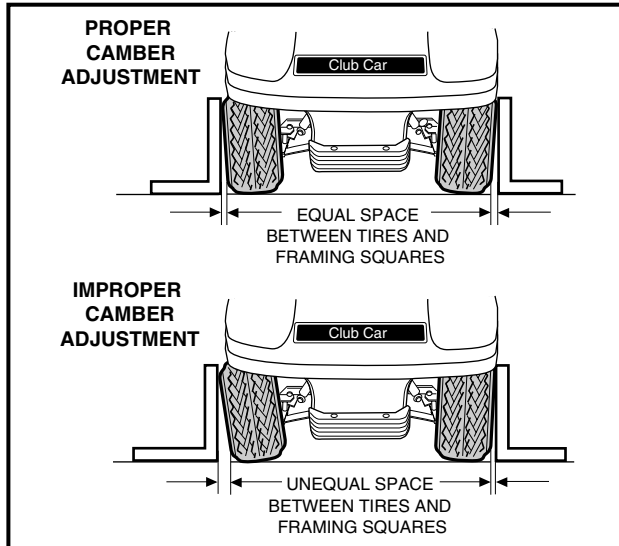
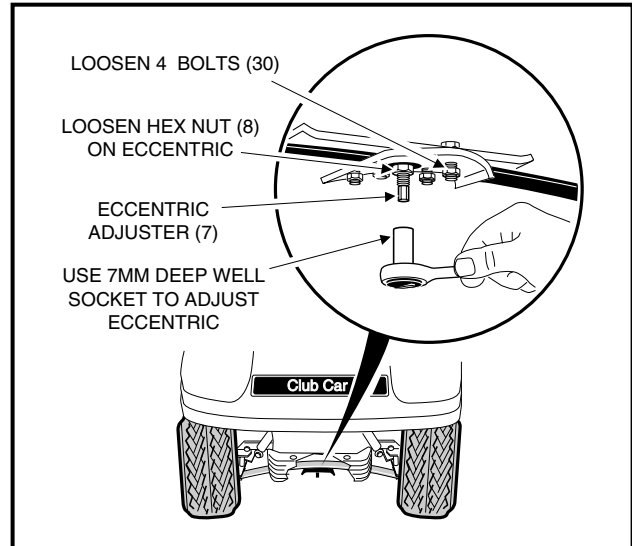
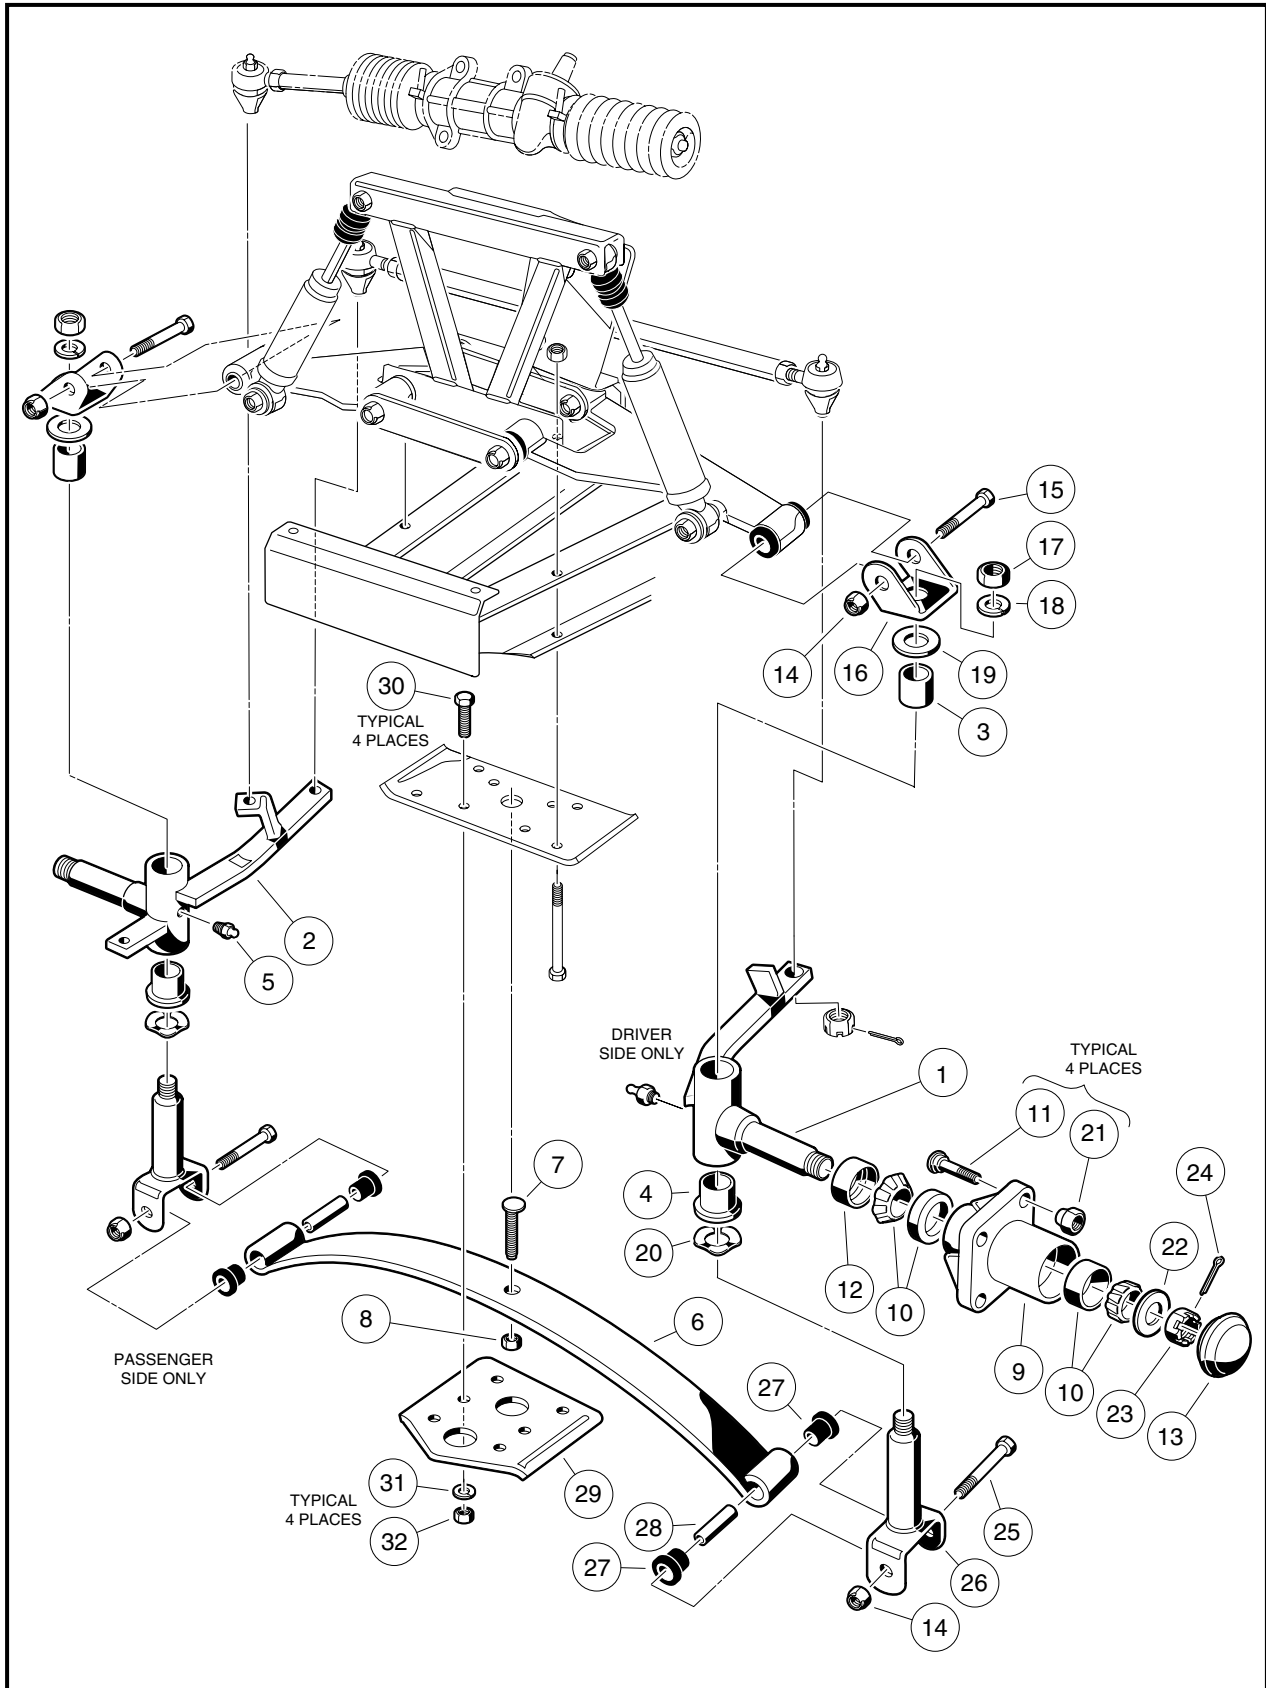
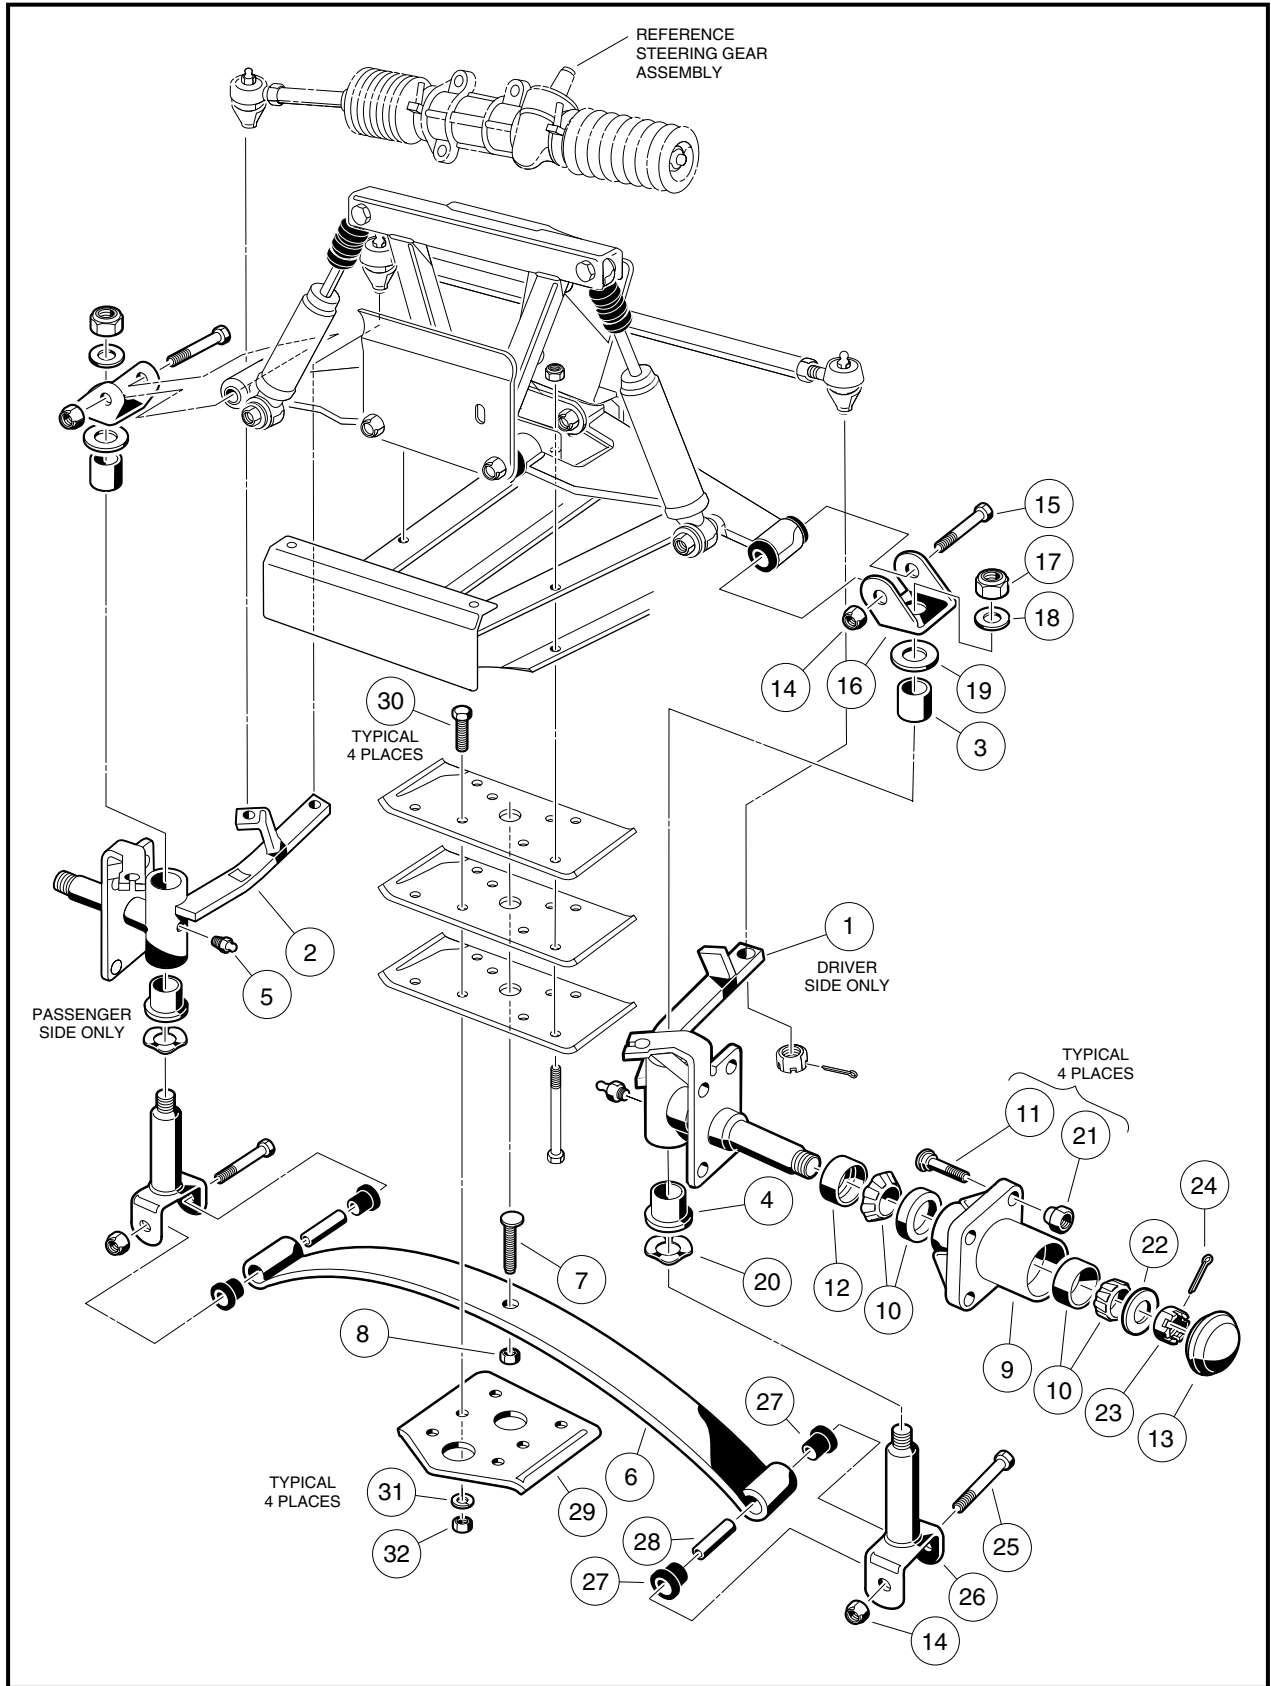

Figure 7-16 Check Camber
Figure 7-17 Adjust Camber
Figure 7-22 Two-Wheel Brake Vehicle - Lower Portion
Figure 7-24 Four-Wheel Brake - Lower Portion
1. Check each front wheel with a framing square. At the floor (or ground), there should be an equal amount of space between each tire and the framing square (**Figure 7-16, Page 7-15**).
2. Loosen (do not remove) the four bolts (30) that secure the leaf spring (6) to the bottom spring plate (29) (**Figure 7-22, Page 7-18**). **See also Figure 7-17, Page 7-15.**
3. Loosen (do not remove) the hex nut (8) on the adjustment eccentric (7) (**Figure 7-17, Page 7-15**) in the center of the spring. **See also Figure 7-22, Page 7-18.**
4. Use a 7 mm deep well socket to rotate the eccentric (**Figure 7-17, Page 7-15**).
5. After adjusting camber, tighten the four spring retaining bolts (30) (**Figure 7-22, Page 7-18**) to 23 ft-lb (31 N·m). Then roll the vehicle forward one full tire revolution and recheck the camber. **See also Figure 7-16, Page 7-15.**
6. Tighten the hex nut (8) on the adjustment eccentric (7) to 10 ft-lb (13.5 N·m) (**Figure 7-22, Page 7-18**). **See also Figure 7-17, Page 7-15.**
3. Remove the nuts (14) and bolts (25) from the bottom of each king pin (26) (**Figure 7-22, Page 7-18**).
4. Remove the four bolts (30), four nuts (32), four lock washers (31), and bottom spring plate (29) (**Figure 7-22, Page 7-18**).
5. Remove tapered leaf spring (6) (**Figure 7-22, Page 7-18**).
6. Check the condition of the urethane bushings (27) and steel sleeves (28) (**Figure 7-22, Page 7-18**). Replace any that are worn or damaged.
1. Install urethane bushings (27) and steel bushings (28) into leaf spring eyes (**Figure 7-22, Page 7-18**).
2. Install tapered leaf spring (6), bottom spring plate (29), four bolts (30), four lock washers (31), and four nuts (32) (**Figure 7-17, Page 7-17**). Using a crisscross pattern sequence, tighten bolts to 23 ft-lb (31 N·m).
3. Install spring in king pins (26) with bolts (25) and nuts (14) (**Figure 7-22, Page 7-18**). Tighten to 23 ft-lb (31 N·m).
4. Remove the nut (17) and lock washer (18) from the top of the kingpin (26) (**Figure 7-22, Page 7-18**).
5. Raise the upper clevis (16) from the kingpin (**Figure 7-22, Page 7-18**).
6. Remove the thrust washer (19) (**Figure 7-22, Page 7-18**).
7. Slide the spindle off the kingpin (26) (**Figure 7-22, Page 7-18**).
8. Remove the wave washer (20) and inspect it (**Figure 7-22, Page 7-18**). If the washer is broken or has a wave bottom to wave crest height dimension of less than .040 inch (0.10 cm), it must be replaced.
9. Remove bolt (25) and nut (14) from bottom of kingpin (26) (**Figure 7-22, Page 7-18**) and remove kingpin.
11. Inspect the bushings (3 and 4) (**Figure 7-22, Page 7-18 or Figure 7-24, Page 7-21**). If the bushings are worn or damaged, remove them and press in new ones. **See following NOTE.**
2. Install the kingpin (26) over the leaf spring eye. Insert the bolt (25) and install the nut (14) (**Figure 7-24, Page 7-21**). Tighten the bolt to 23 ft-lb (31 N·m).
3. Install the wave washer (20) (**Figure 7-24, Page 7-21**).
4. Install the steering spindle on the kingpin. Then install the thrust washer (19), upper plate clevis (16), lock washer (18), and nut (17). Tighten the nut to 40 ft-lb (54.2 N·m) (**Figure 7-22, Page 7-18**).